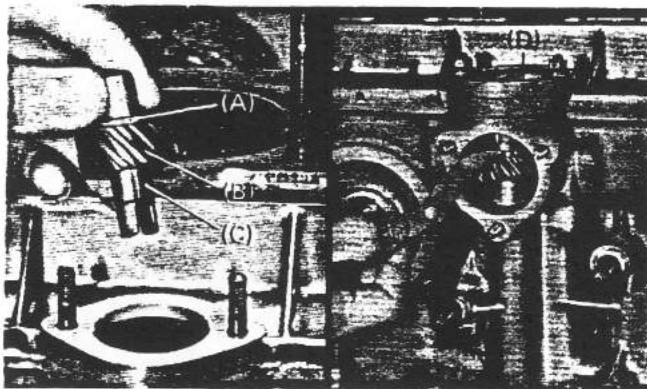

Fig. 125
- Insert the oil pump driven gear assembly (B), shim (C) and thrust washer (A) into the cylinder block as shown in Fig. 125, and fit them to the oil pump drive shaft and the camshaft drive gear. Tighten the oil pump drive gear cover (D) to 6.6 ft-lb (0.9 m·kg).